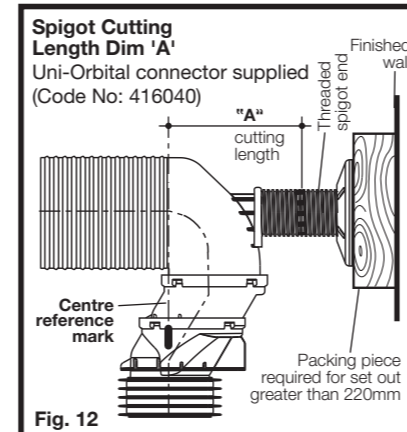

Fig. 12
- 3- For installation of the Uni-Orbital® connector, reference must be made to the instructions supplied with the Uni-Orbital® connector. If the set-out is greater than 220mm a packing piece will be required from the Uni-Orbital® connector fixing nut to the finished wall, as detail in Fig. 12.